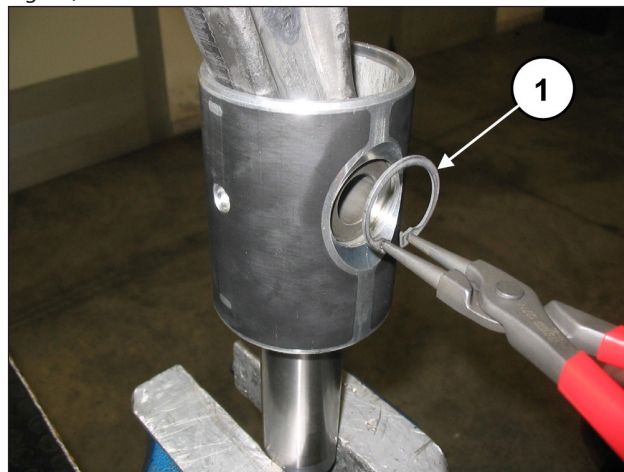

Fig. 44
Remove the two spindle pin circlips using circlip pliers (pos. ①, Fig. 44).
Insert the conrod in the piston guide (pos. ①, Fig. 46) and then insert the spindle (pos. ①, Fig. 45). Fit the two circlips with the circlip pliers (pos. ①, Fig. 44).